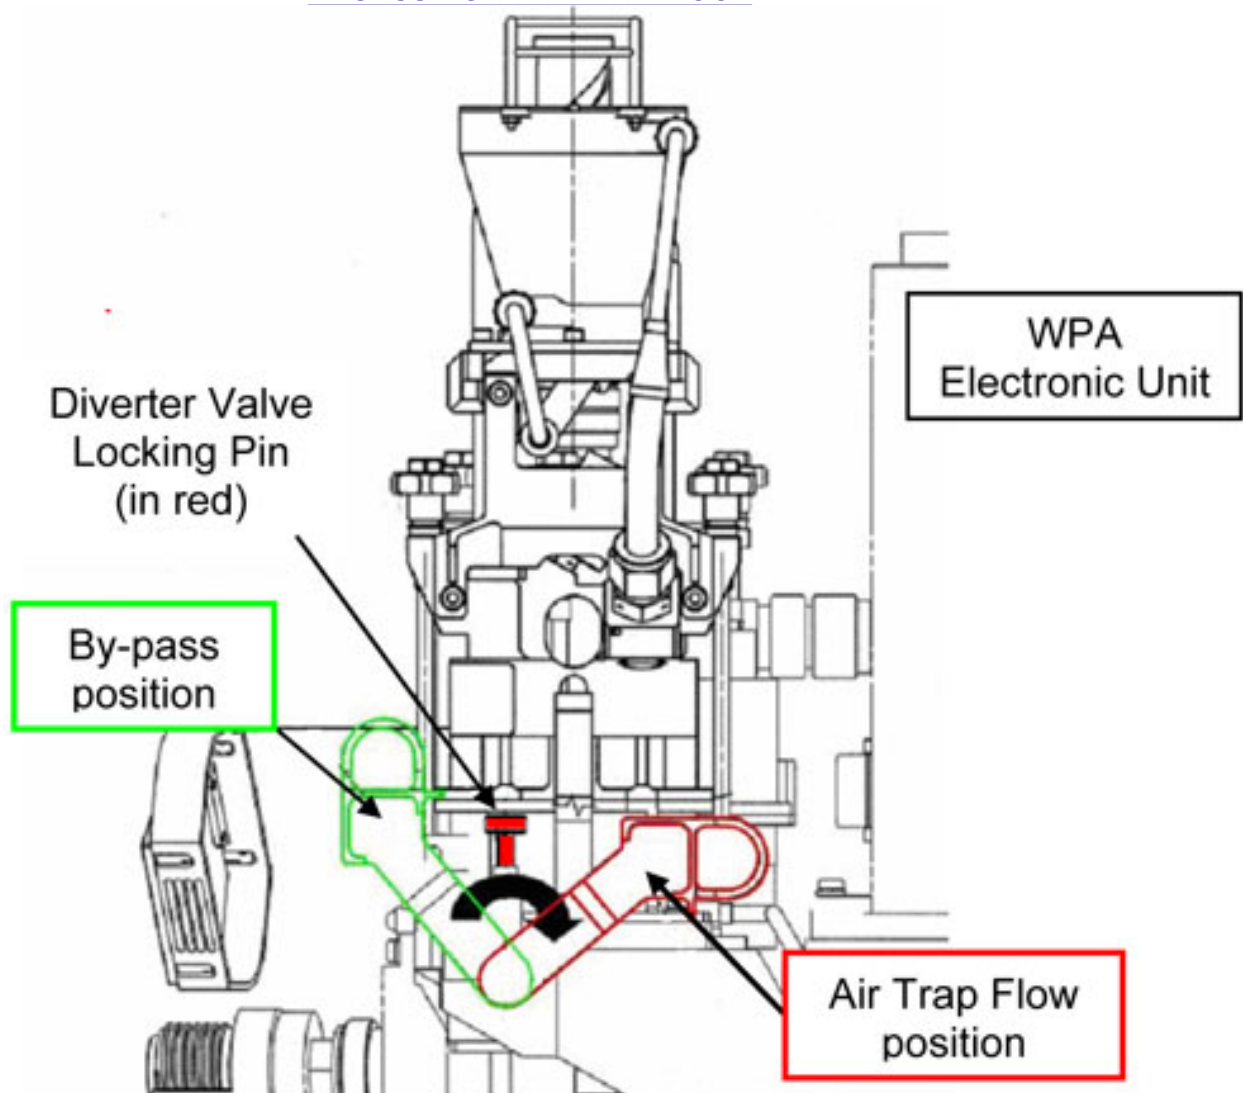

Figure 9. Diverter Valve Handle positions
- 4.1 Pull the Diverter Valve locking pin then move the Diverter Valve Handle 1/4 turn ↻ from BYPASS to AIR TRAP FLOW position. Refer to Figure 9.
*      Refer to Figure 9.